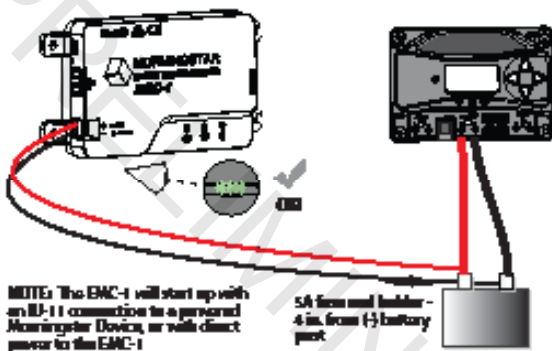

Figure 2-3. Connecting the power wires
The EMC-1 is powered from an 8-80 Vdc supply, such as an AC-DC converter or system battery connected to the power input provided on the EMC-1 unit. See the Operation section (3) for details on the start-up procedure. Connect the power wires as indicated in Figure 2.3 below.